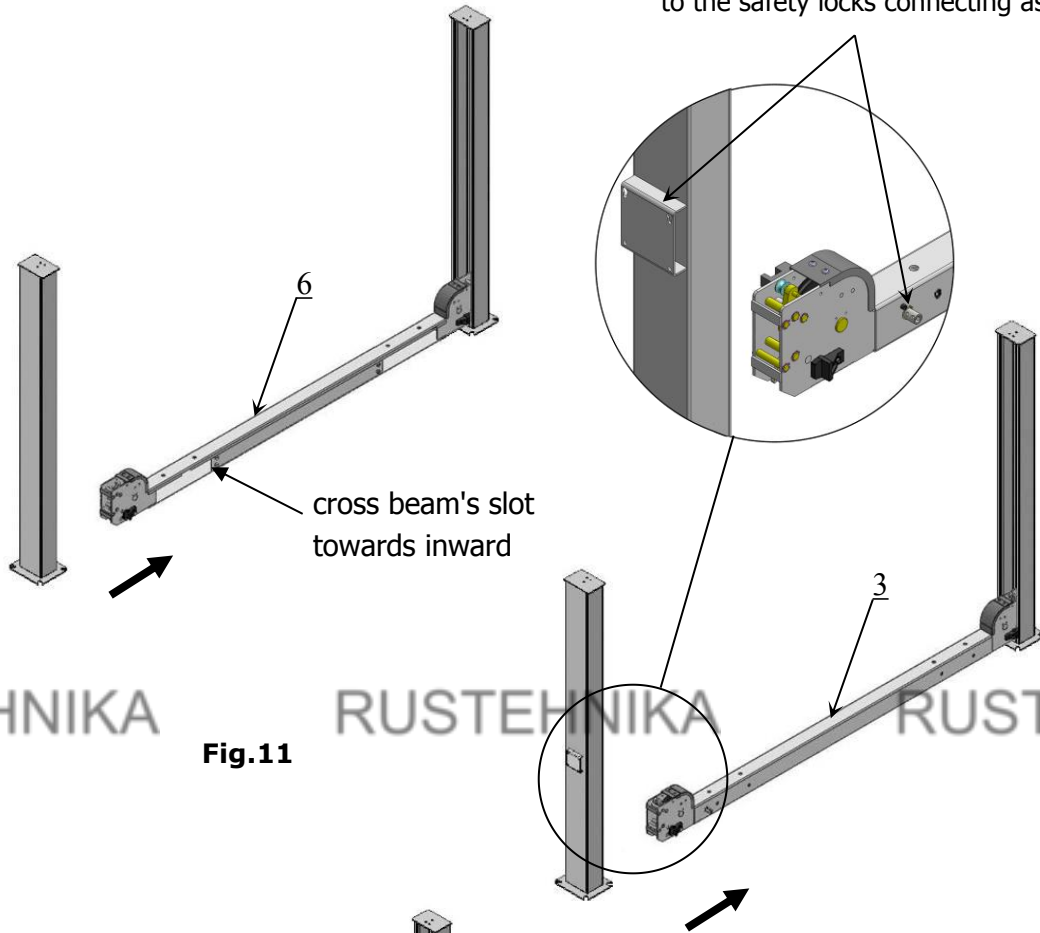
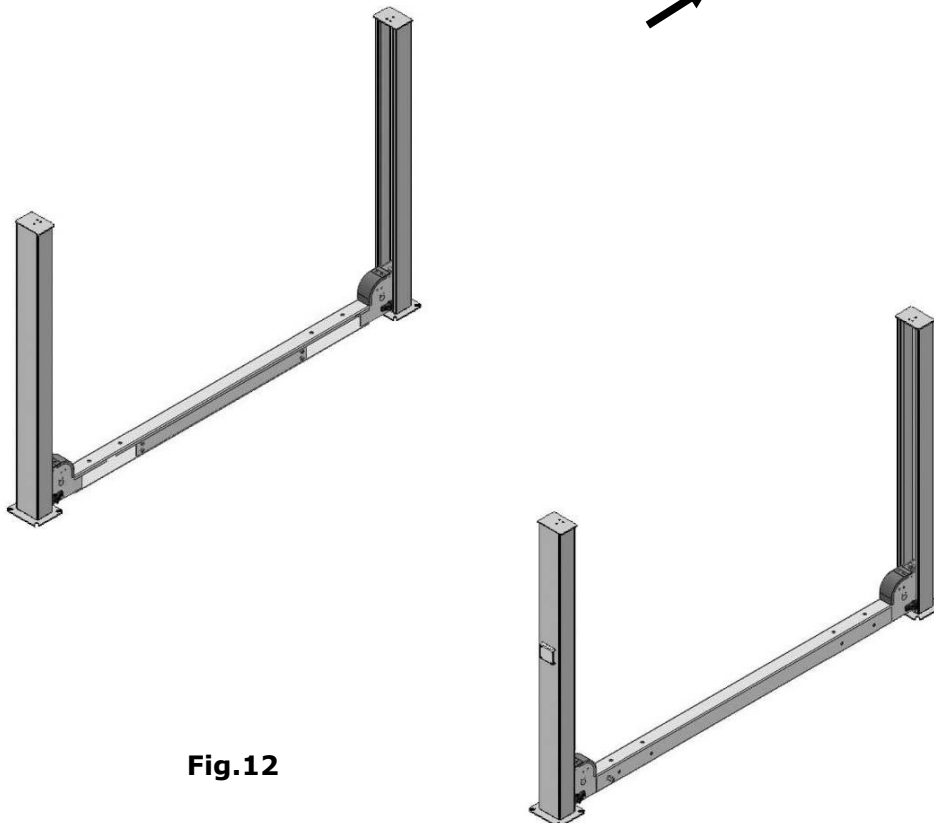

Fig.11
Fig.12
C. Install cross beams (See Fig.11, Fig.12).